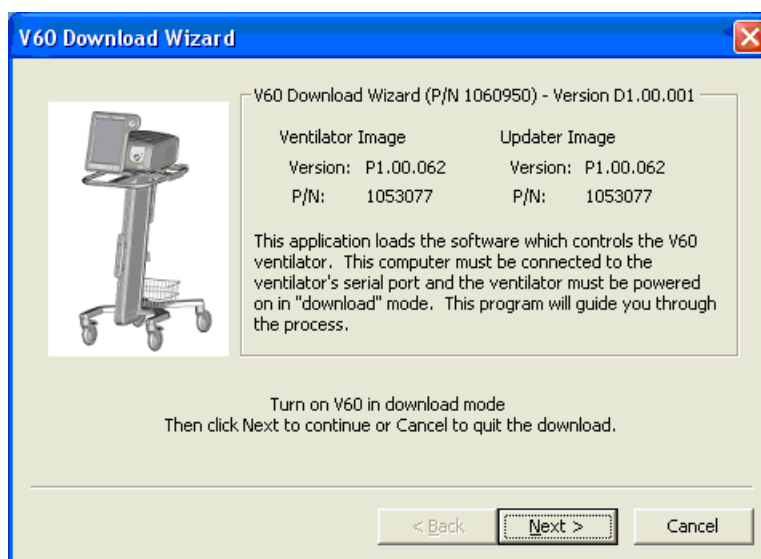

Figure A-3: V60 Installation Program
9. When the V60 ventilator is in download mode, click **Next** to continue or **Cancel** to exit (Figure A-3).